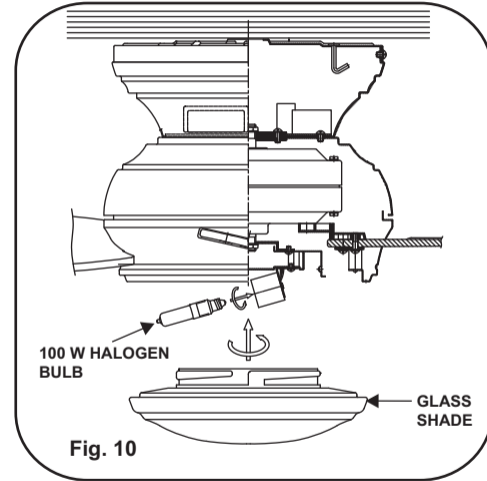

Fig. 10
Step 2. Raise glass shade up against bottom of fan housing and secure it to the fan by turning the glass shade clockwise until snug. **DO NOT OVERTIGHTEN.** (Fig. 10)